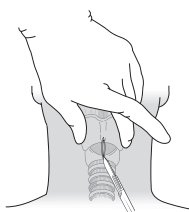

Fig. 2
2. Firmly immobilize the thyroid cartilage with the first and third fingers of the non-dominant hand, leaving the second finger free for palpation of the cricothyroid membrane. Make a vertical, midline skin incision down to the depth of the thyroid and cricoid cartilages. (**Fig. 2**) **NOTE:** Ensure that the incision is sufficient in size to allow passage of the dilator and airway catheter.